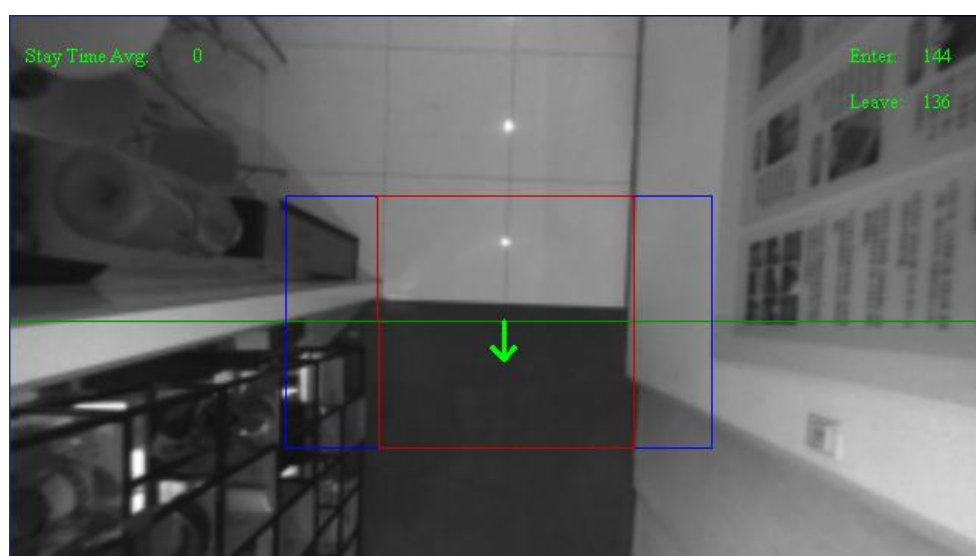

Figure 2-12 Example of detection area drawing
(2) Detection area drawing principle
- The detection area should be slightly larger than or equal to the actual area to be covered, and there is no need to set the maximum detection area as the current detection area. This helps reduce interference from objects such as sundries or white walls on both sides, as shown in Figure 2-12.